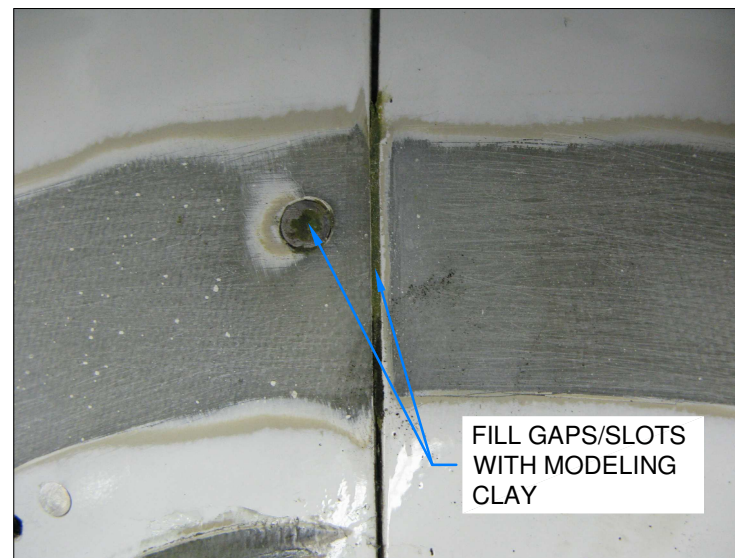

FIGURE 1: FILL GAPS
Step 1: Fill the cross slots in the heads of the screws and the gap between the front and back halves of the wheel fairings that fall within the sanded area with modeling clay to aid in removal if they get covered with flox mixture. See Figure 1.
Blow the sanded surface clean in preparation for bonding. See Figure 1.